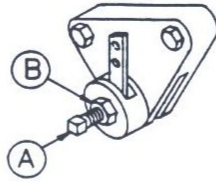

fig. 10
2. To adjust brake at caliper (item #26, pg. 16), loosen locking nut (Item B, fig. 10). Turn adjusting screw (Item A, fig. 10) in until brake is holding. Retighten locking nut (Item B, fig. 10).